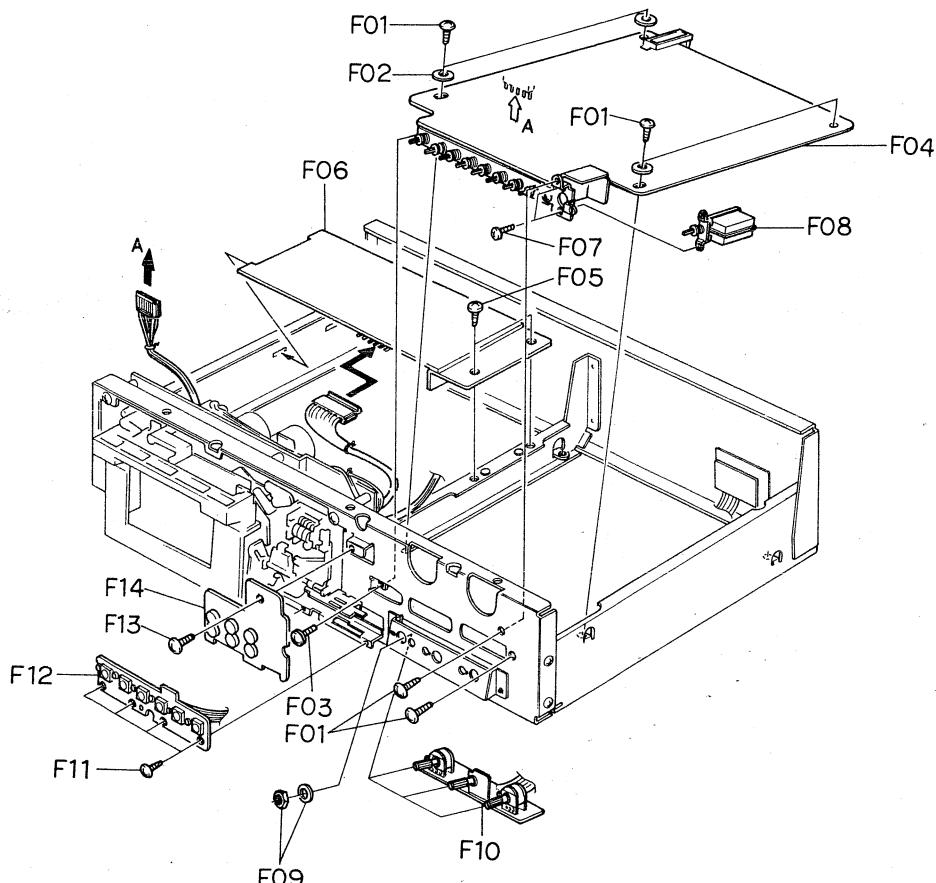

Fig. 3.3
Refer to Fig. 3.3.
- (1) Refer to Fig. 3.3. Remove Main P.C.B. Ass'y referring to item 3.7.
- (2) Remove F07, then disassemble F08 (Power Switch).